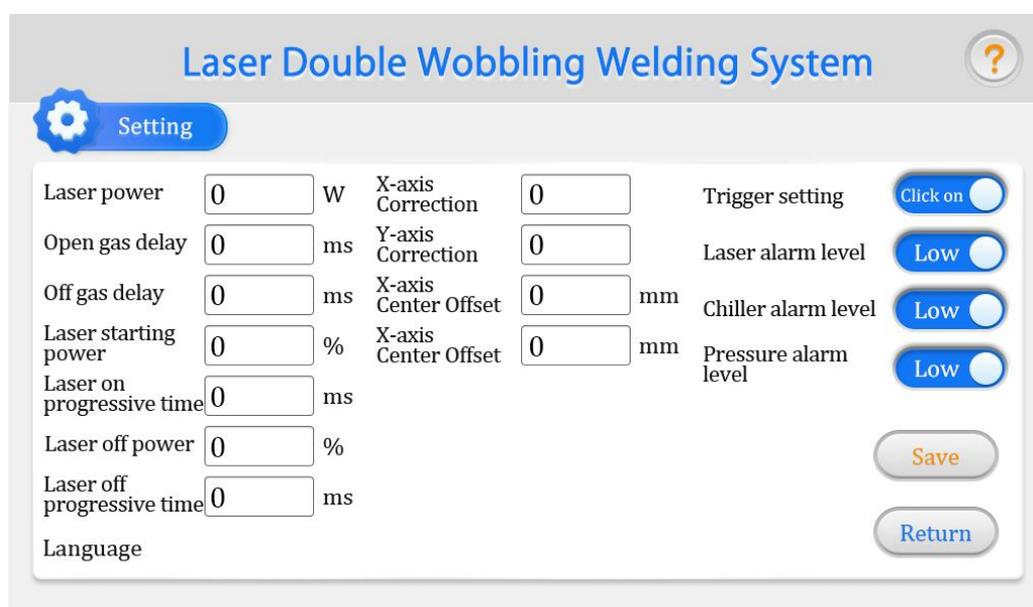

Figure 4.4 Settings page of laser swing welding system
The page shown in Figure 4.4 is used to set factory parameters, including product power and alarm level.
①[Laser power]: It is subject to the actual laser.
②[Delay of gas closing]: After the light is turned off, the gas closing is delayed.
③[Air-opening delay]: Vent in advance before the light comes out.
④ [On/Off Power][On/Off Progressive Time]: As shown in Figure 4.4,[On Progressive Time T1]represents the time from[On Power N1]to[Peak Power N3], and[Off Progressive Time T2]represents the time from[Peak Power N3]to[Off Power N2].